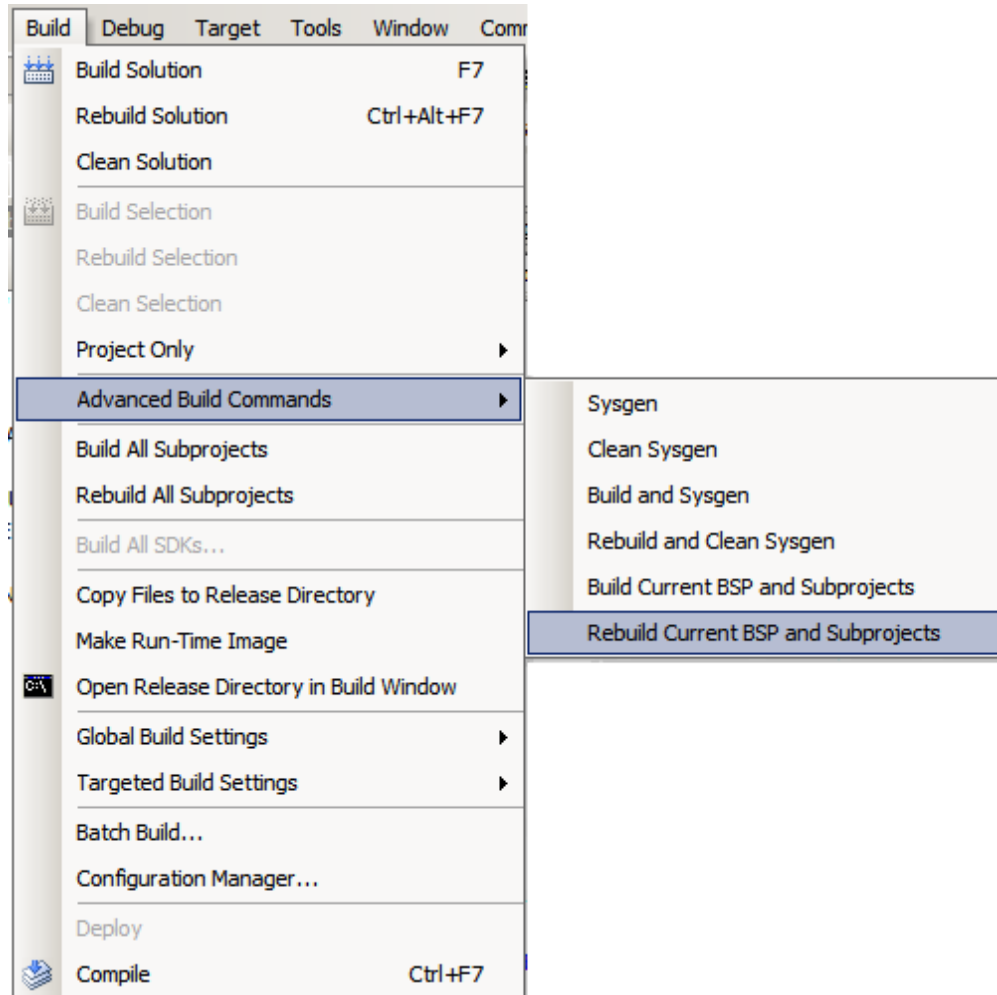

Figure 4-2 Clean Build for the BSP
2. Click **Build > Advanced Build Commands > Rebuild Current BSP and Subprojects** to perform a clean build of the BSP platform directory (including the SoC libraries) and complete the creation of a new OS image. (Figure 4-2).